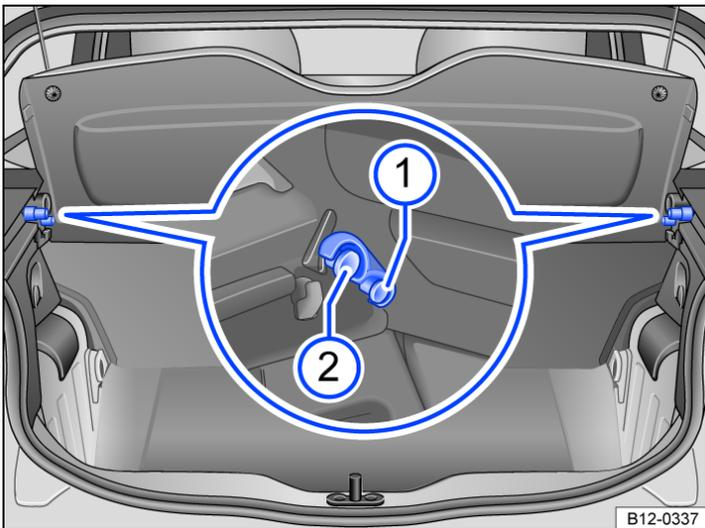

Fig. 1 In the luggage compartment: raising the luggage compartment cover.
- Fold up the luggage compartment cover and push it into the side holders → Fig. 1 ¹. When doing this ensure that the luggage compartment cover is correctly secured in position.